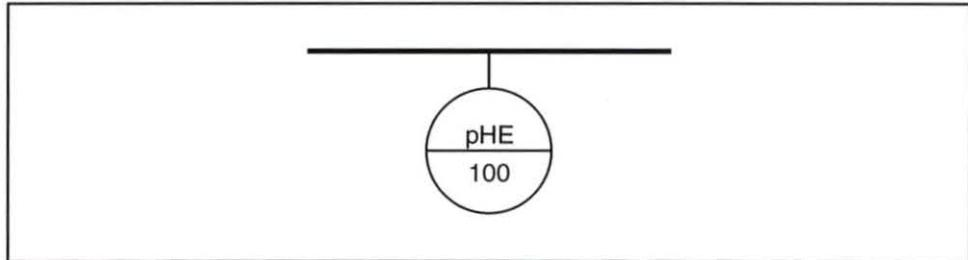

Figure 71. Sensing Element Symbol
7. Determine which type of component symbol is shown in figure 71.